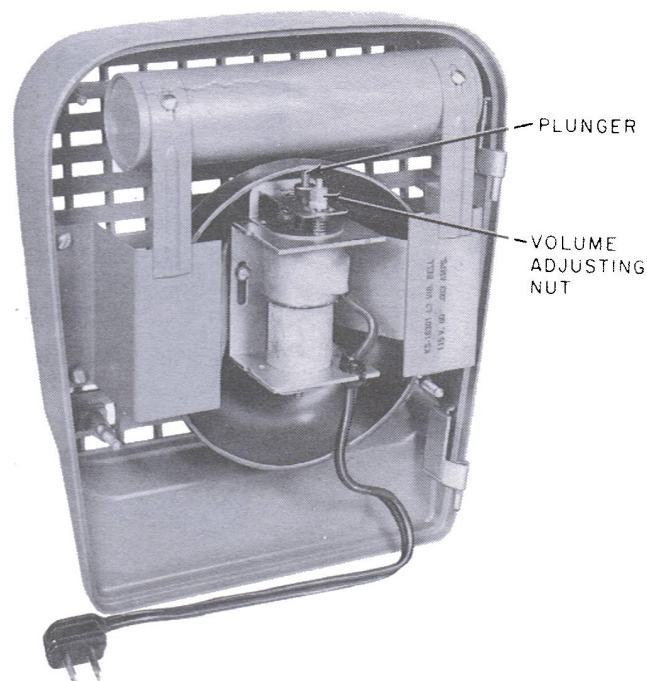

Fig. 8—KS-16301, List 3 Bell
6.01 The KS-16301, L3 (vibrating bell) has a volume adjustment. On the Wheelock Signal Company type, the adjustment is a hexagonal nut on the rear of the signal (Fig. 8). The Sperti-Faraday Company type adjustment is on the back of the bell resonator. The direction of adjustment is stamped near the adjusting nut or screw. Table A shows operating currents.